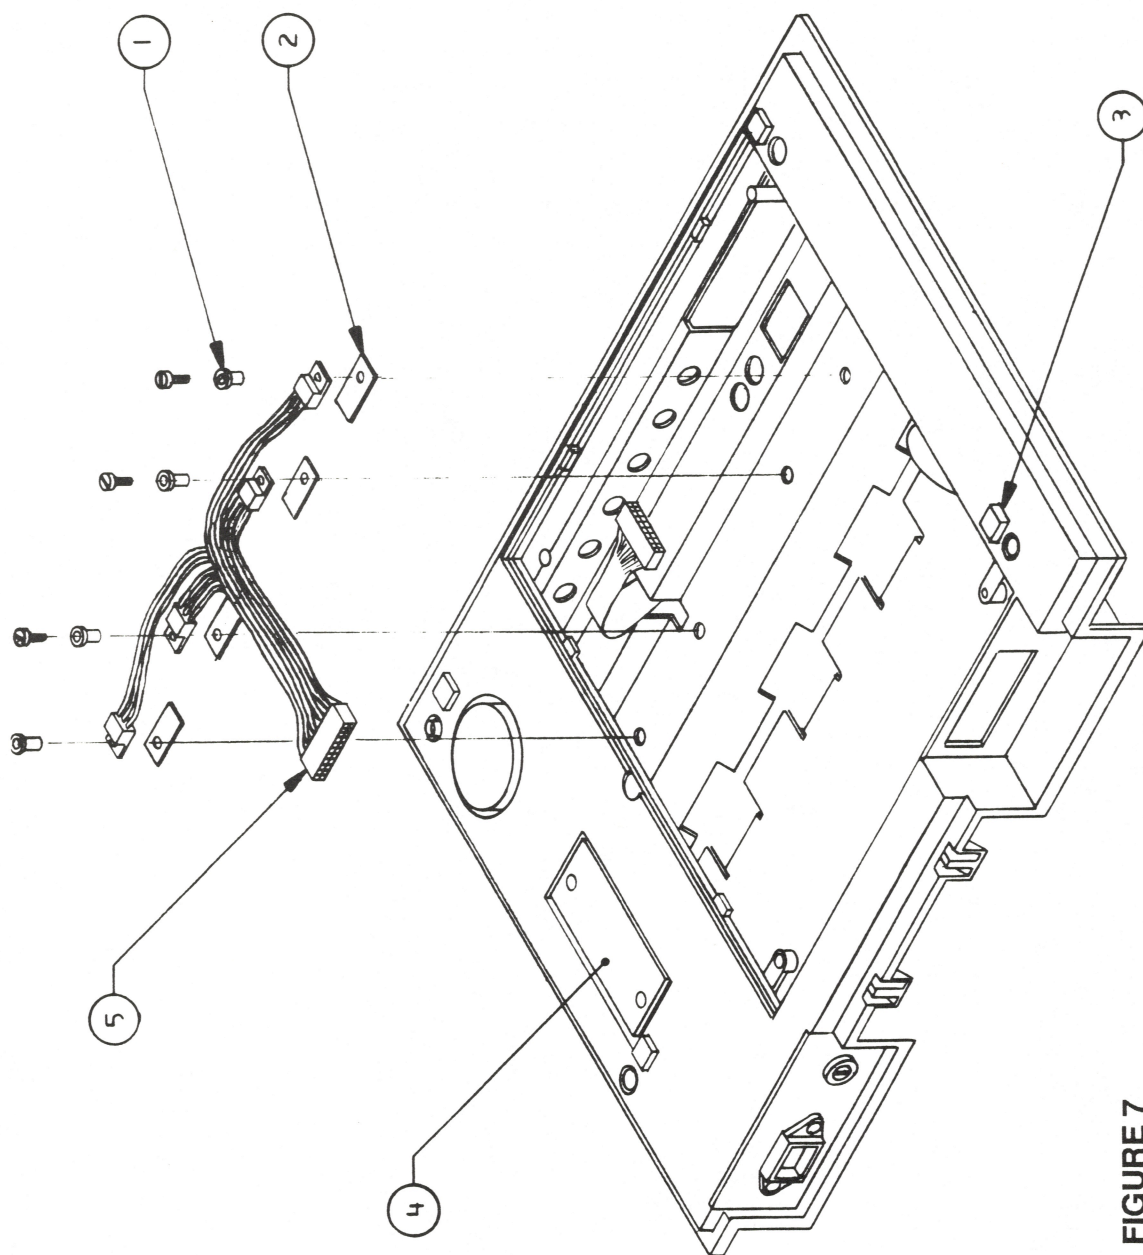

FIGURE 7
**IMAGEWRITER - BOTTOM VIEW (Figure 7)**